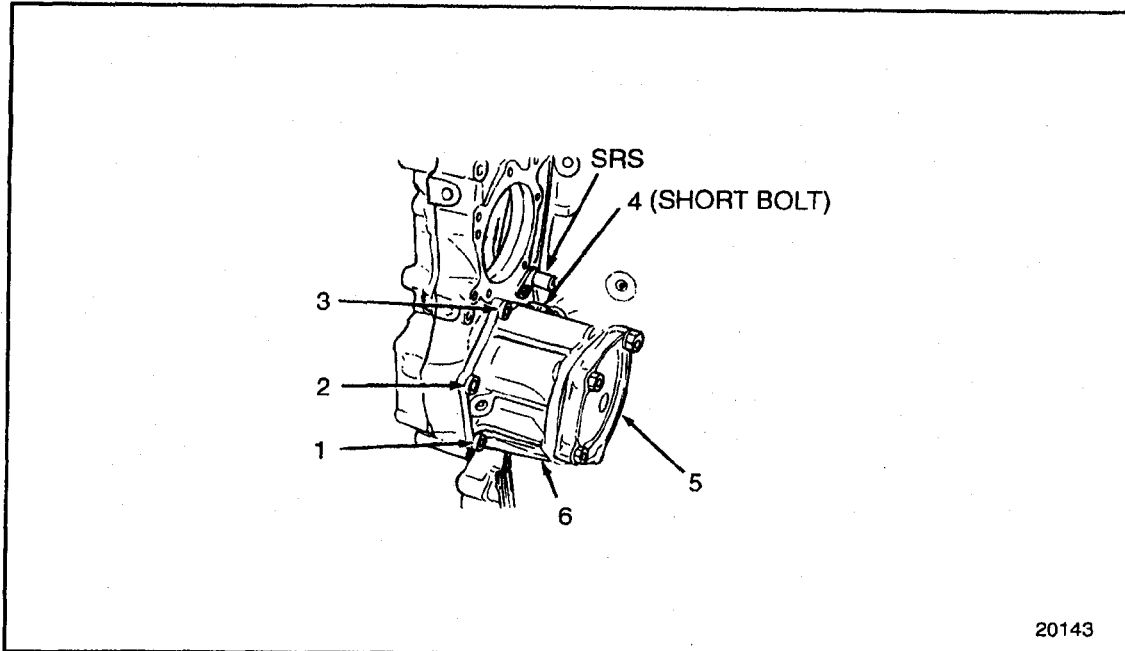

Figure 1-163 Gear Case Cover Bolt Arrangement (Left Rear)
- [b] Remove the air compressor drive assembly by removing the six bolts on the back of the gear case on the intake side of the engine located around the air compressor drive assembly. See Figure 1-163.